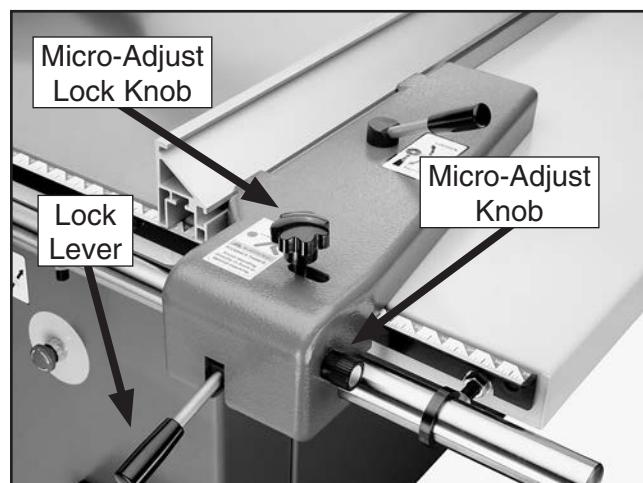

Figure 88. Rip fence micro-adjusting controls.
6. Tighten down the micro-adjust lock knob (**Figure 88**) and turn the micro-adjust knob to zero in on the desired width-of-cut.